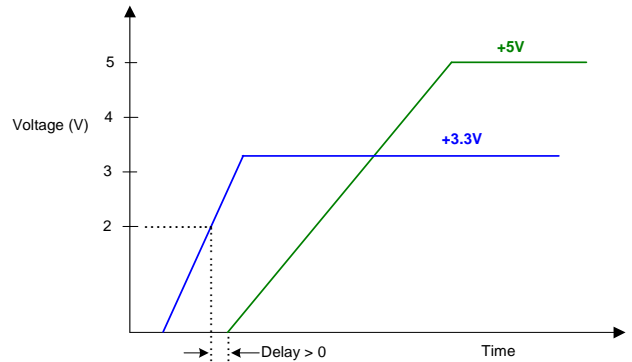

Figure 3: Voltage Ramp
- The power on ramp of the 5 V supply must be delayed until the power on ramp of the 3.3 V supply is higher than 2.0V (Refer to Figure 3)